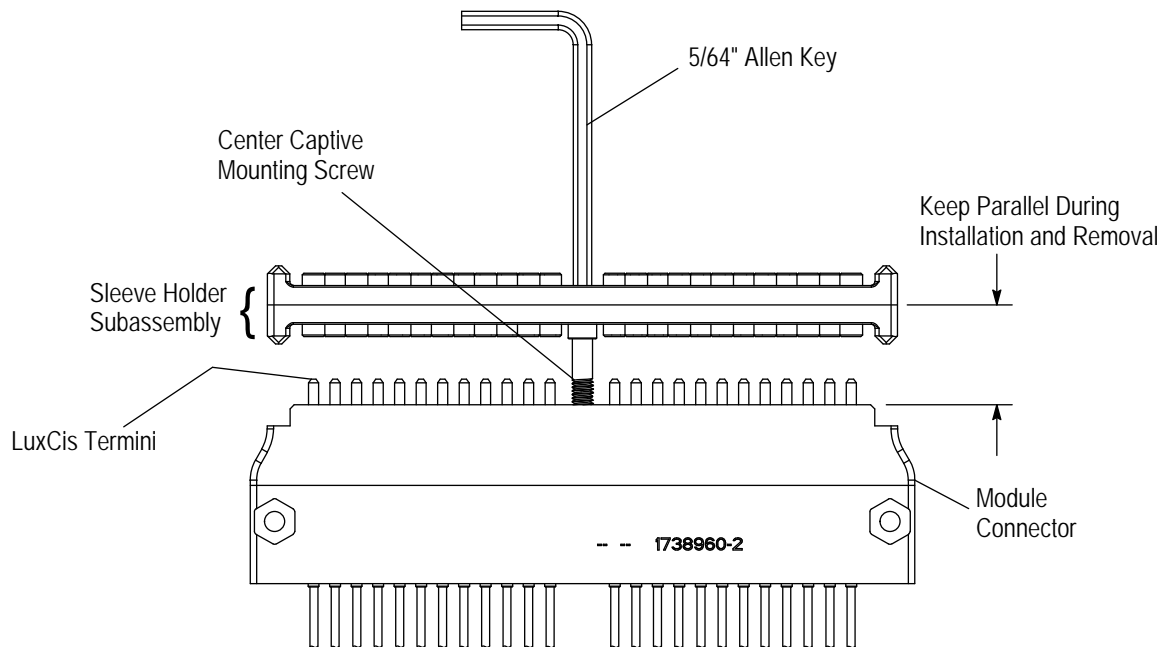

Figure 13
3.7. Installation and Removal of the Sleeve Holder Subassembly (Figure 13)